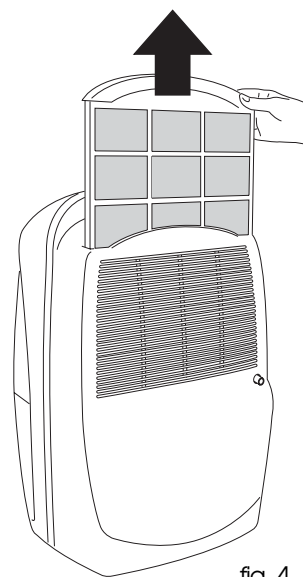

fig. 4
- To remove the air filter, extract by pulling (fig. 4).